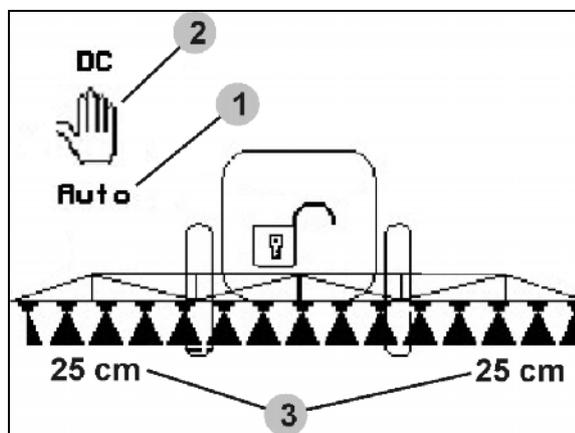

Fig. 91
- When automatic mode is activated, the "Auto" symbol (Fig. 91/1) appears in the display. The machine computer takes over control of the distance between the spraying nozzle and the crop.
- In manual mode, the symbol (Fig. 91/2) appears. Distance Control is switched off. Control the distance between the spraying nozzle and crop manually using the tilt and height adjustment.
- Press : the distance between the spraying nozzle and crop is displayed in the work menu (Fig. 91/3).